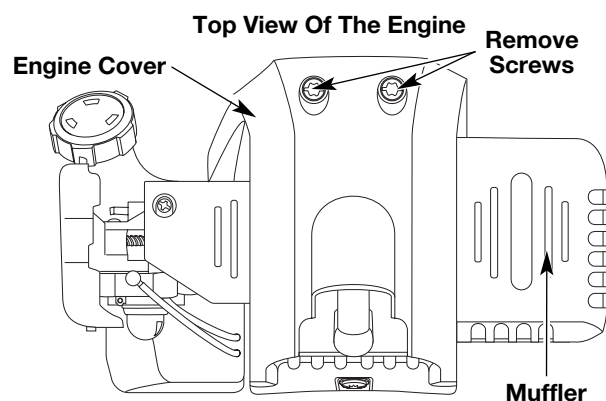

Fig. 68
2. Remove the two (2) screws on top of the engine cover with a Flat-head or T-25 Torx screwdriver (Fig. 68).
- Remove the engine cover (Fig. 68).